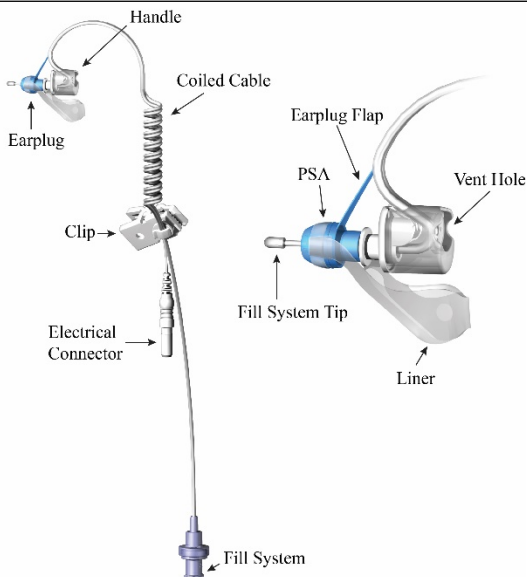

Figure 2. Details of the Earset
- The **Earset (Figure 2)** includes an attachable/detachable Earplug attached to a handle, an integrated fill system, and an integrated electrode and cable through which electrical current is delivered to the TYMBION solution. The integrated fill system allows for the administration of the drug solution to the ear canal, as needed. The cable and tubing are coiled, and a clip is provided to manage the routing of the cable behind the ear.